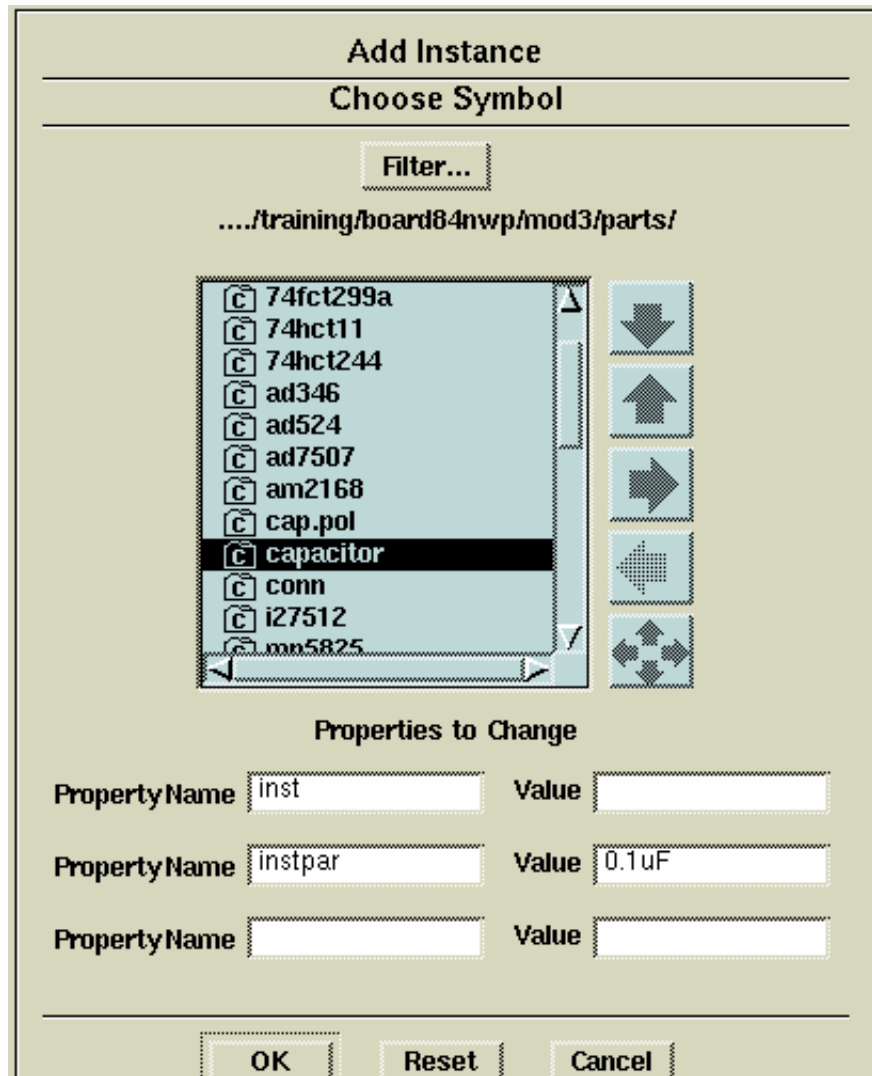

Figure 2-26. Add Instance Dialog Box for Capacitor
25. Click the **Choose Symbol** icon and navigate to **mod2/parts**. Choose **capacitor** from the parts list in the dialog box. Enter changes in the dialog box as shown in Figure 2-26.